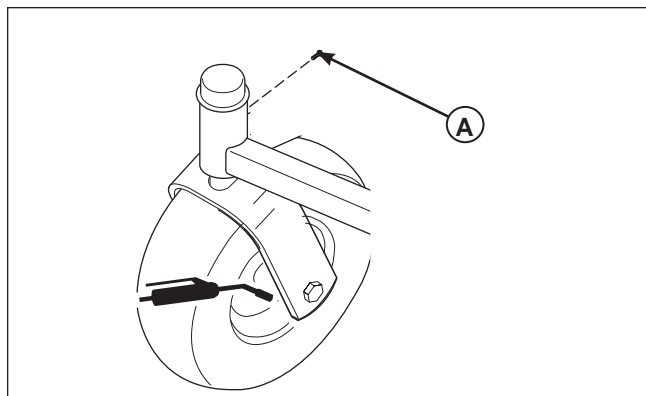

Figure 25. Front Caster & Wheel
1. Remove the 1/4-28 bolt (A, **Figure 25**) screwed into the front caster and install a 1/4-28 grease fitting.